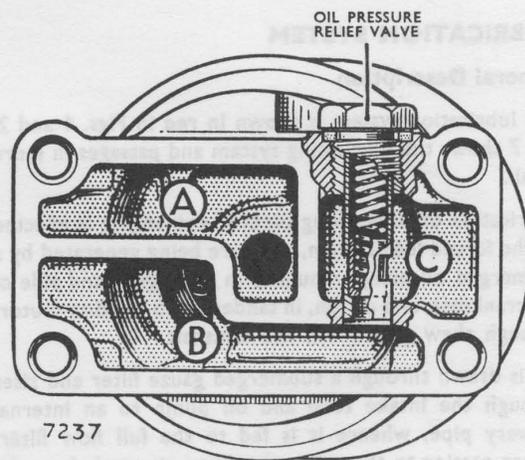

Fig. 10. Oil pressure relief valve and oil filter base.
**Oil pressure relief valve** — See Fig. 10
The oil pressure relief valve can be removed as a complete unit with a  $\frac{11}{8}$  in. A.F. ring spanner. It is identified by pip on the hexagon head as shown in Fig. 10.